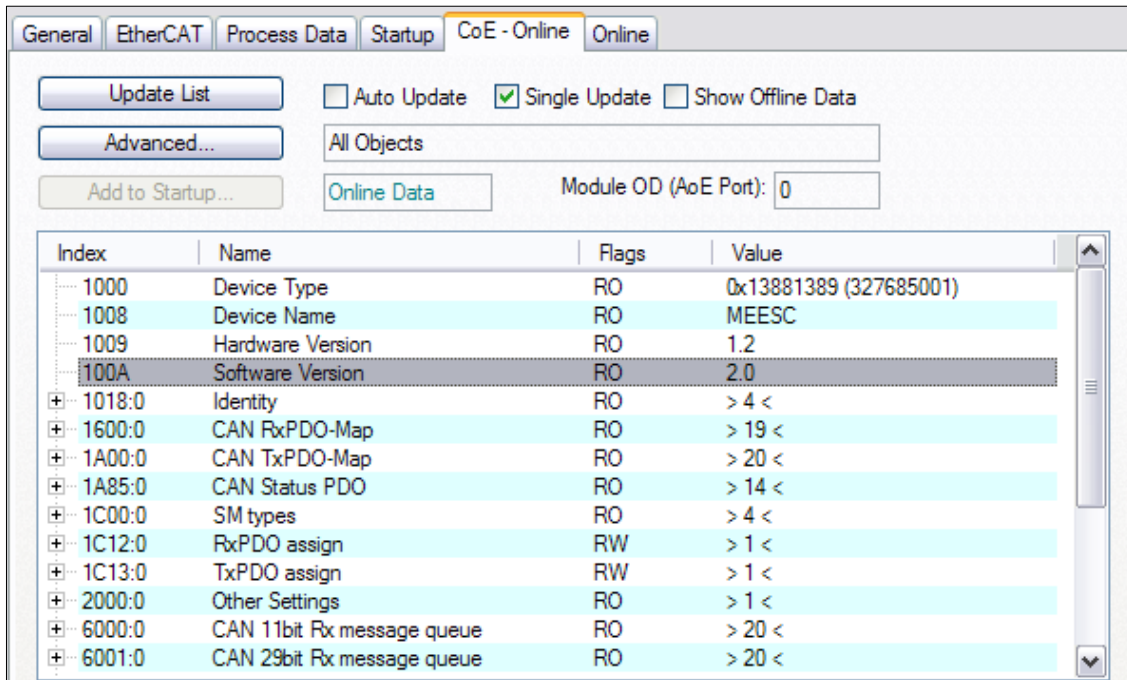

Figure 38: CAN-EtherCAT CoE dict., Software/Firmware version selected
9. Verify the current version in object 0x100A, Figure 38.